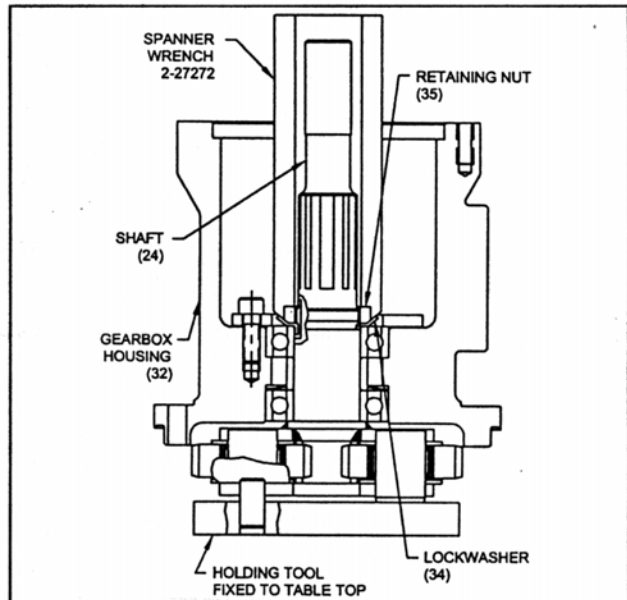

Figure 13. Tightening Retainer Nut
Place carrier shaft assembly on holding tool. Install lock washer and thread locknut (35) onto carrier shaft. Tighten locknut using spanner wrench as shown in figure 13. Torque to 125 in-lb.